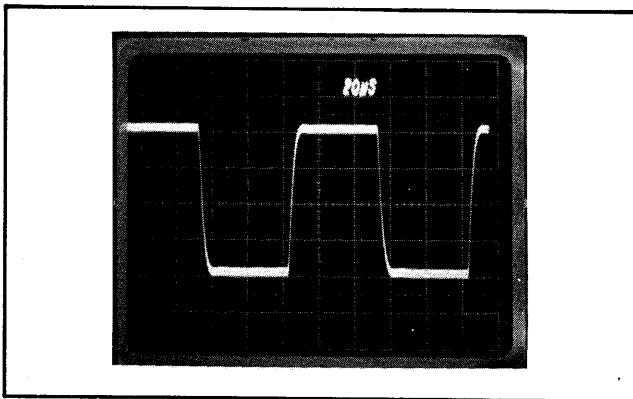

Figure 5-37. ALC Loop Square Wave
- (b) Adjust the oscilloscope vertical and horizontal controls to display a square wave similar to that shown in Figure 5-37.
play a square wave similar to that shown in Figure 5-37.